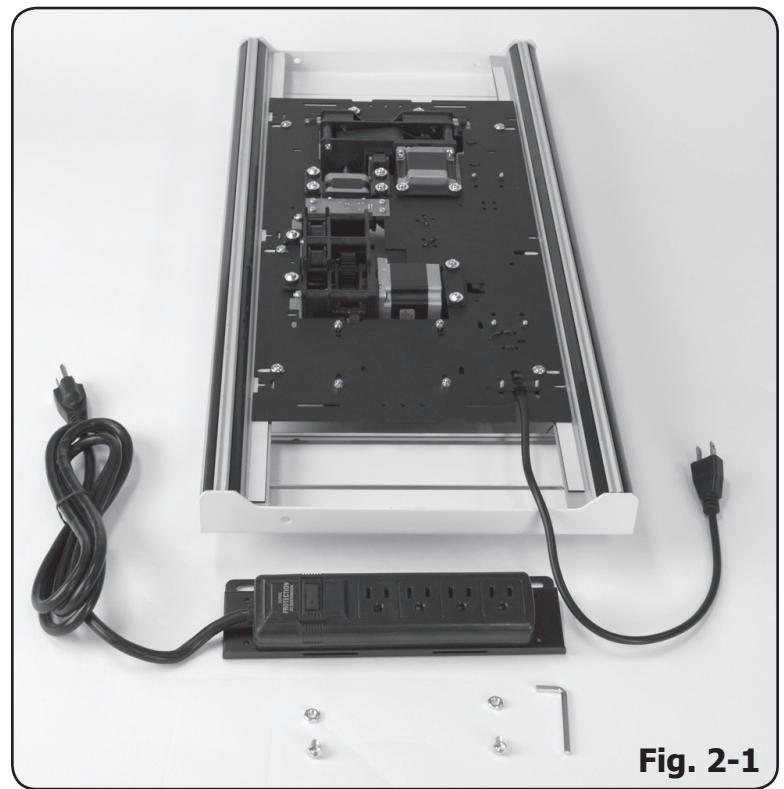
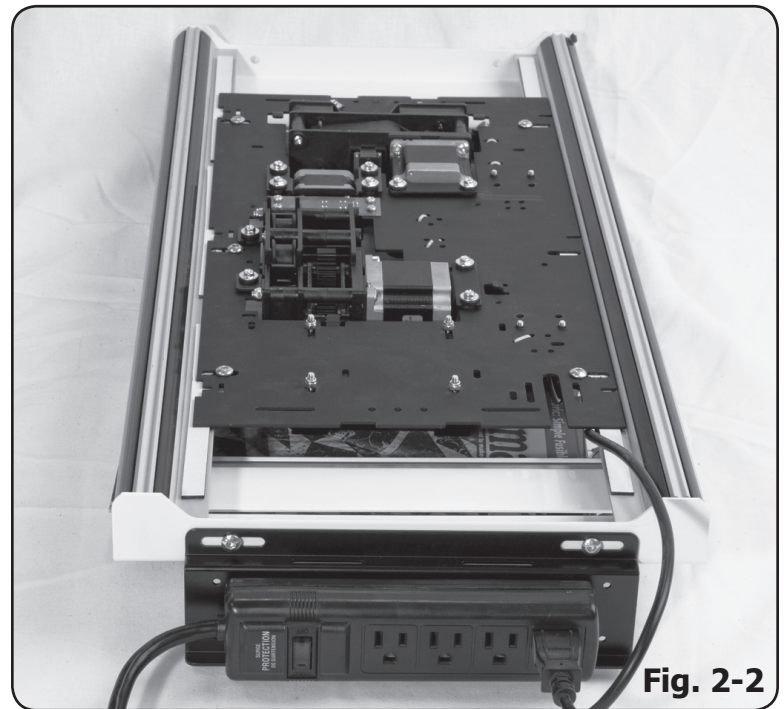

Fig. 2-1
Fig. 2-2
Step 2-1: Attach the Power Strip to the Bottom Carriage using the **(2) M6 x 10mm SBHC Screws** and **(2) M6 Hex Nuts** as shown in **Fig. 2-1** and **2-2**. Plug the Motor Plate into the Power Strip as shown in **Fig. 2-2**.